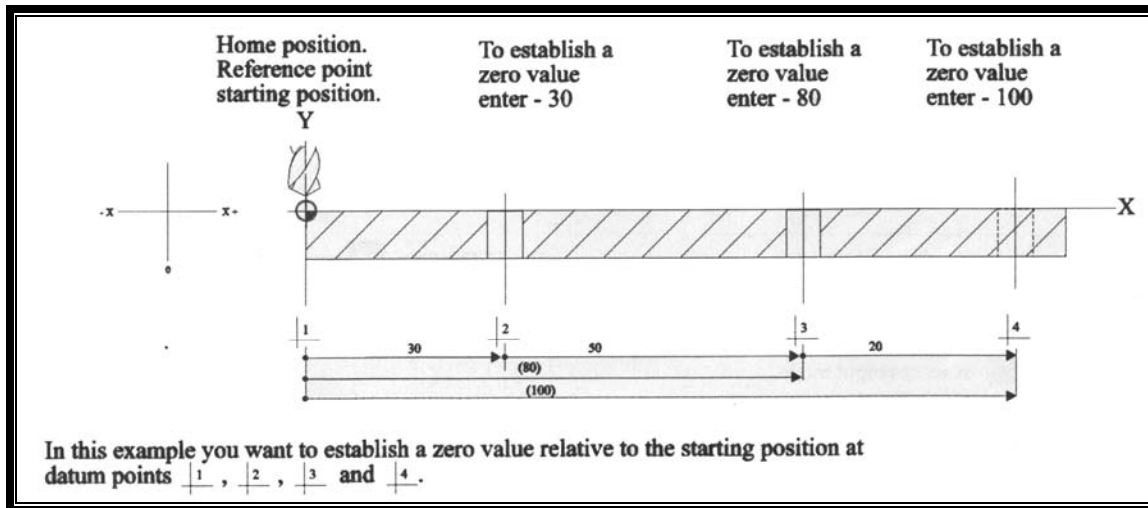

Figure 10 Presetting datum points
Figure 10 below shows how to preset the datum points. To preset datum point 2 in this example, a value of -30.00 must be entered.
Table 15 on page 16 provides a worked example on presetting datum points, using Figure 10 above.
6. To establish a zero value at datum point 2, press  and enter 30.00 (The distance between points 1 and 2 in Figure 10 on page 15).	-00030.00 ²
8. Now datum point 3 will be entered as shown in Figure 10 on page 15. A position of -80mm needs to be entered to obtain a zero point for this position.
12. To establish a zero value at datum point 3, press  and enter -80.00 (The distance between points 1 and 2 in Figure 10 on page 15).	-00080.00 ³